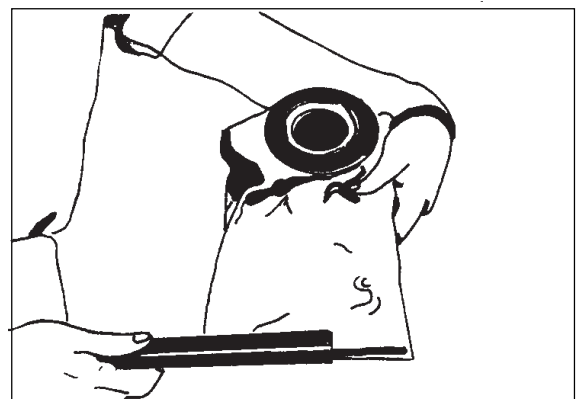

Figure 5
3. Slide the clamp off the filter bag. See figure 5.